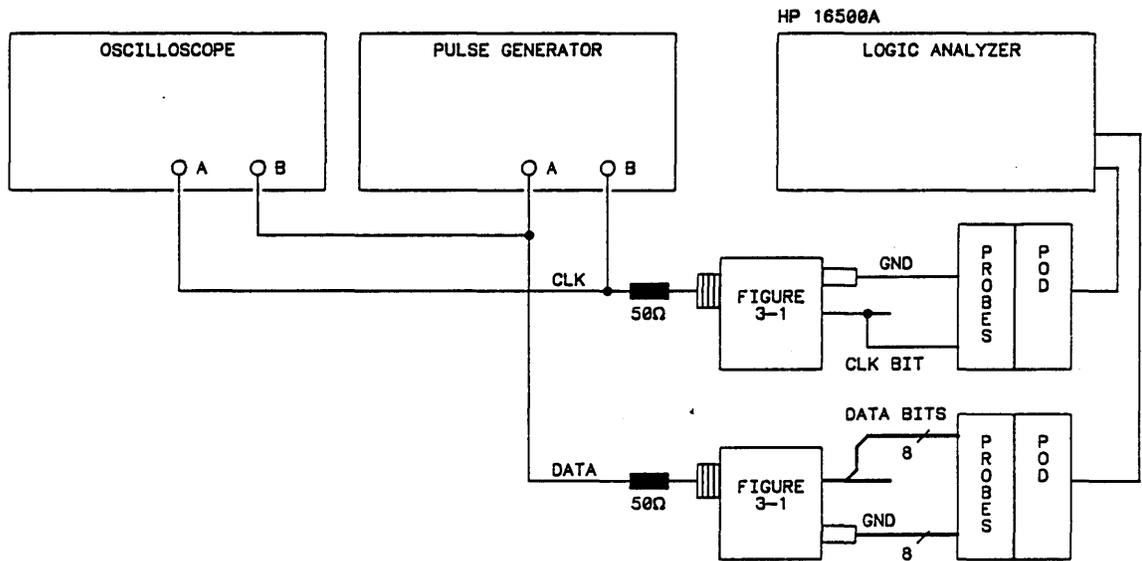

Figure 3-12. Setup for Clock, Qualifier, and Data Inputs Test 3
1. Connect the HP 16510A and test equipment as in figure 3-12.